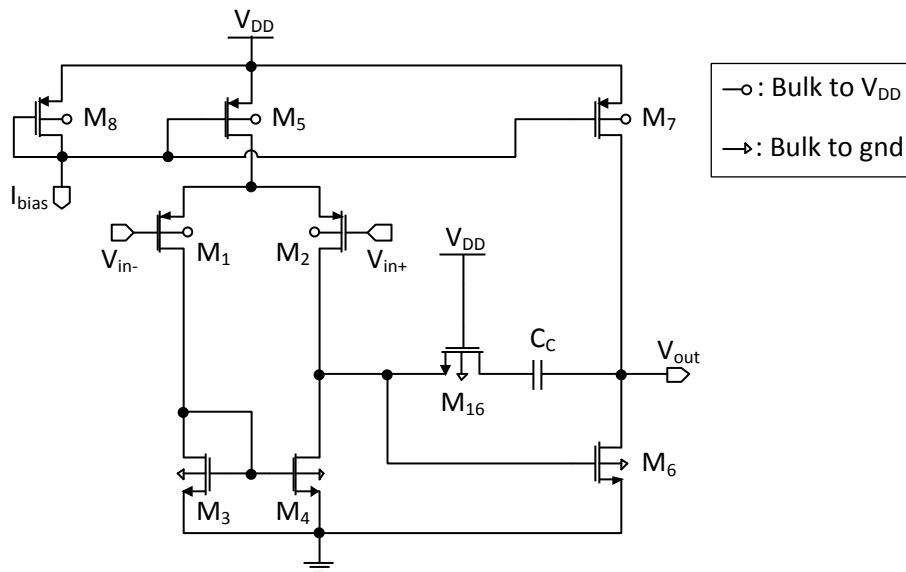

Figure 2: Schematic of the OP-amp
The schematic of the OP-amp is found in figure 2.
Now to find the dimensions of the input and output stage we need the transconductance of  $M_1$ ,  $M_2$  and  $M_6$ . The transconductance can be determined by the bandwidth, gain and phase margin considerations. First we take a look eq. 9.47 on page 648 in the text book which gives us the poles for the compensated amplifier in figure 9.24(a), (this is the same amplifier as in figure 2). In eq. 9.47 all parasitic capacitances except  $C_{gs}$  where neglected. To determine the poles of another amplifier you will have to do a small signal equivalent schematic of the transistors in the amplifier and calculate the transfer function. This is a good exercise and you are encouraged to do it on the OP-amp of this laboratory. The poles from eq. 9.47 are:
We now continue with the active load of the input stage,  $M_3$  and  $M_4$ . The drains of  $M_1$  and  $M_2$  should ideally have the same potential and looking at the schematic in figure 2 we see that this will be the same potential as on the gates of  $M_3$  and  $M_4$  as well as of the gate of  $M_6$ . Thus we will have the same  $V_{GS}$  of all three transistors. This is described more at page 425 and eq. 6.62 and 6.63 in the text book. The relation between the dimensions of the transistors and their  $I_{DS}$  is:
2. Draw the schematic of your OP-amp in Cadence, see figure 2. Calculate all the bias currents and dimensions for the devices and mark the results in your schematic. You should meet the following specifications (not the same as in the example):